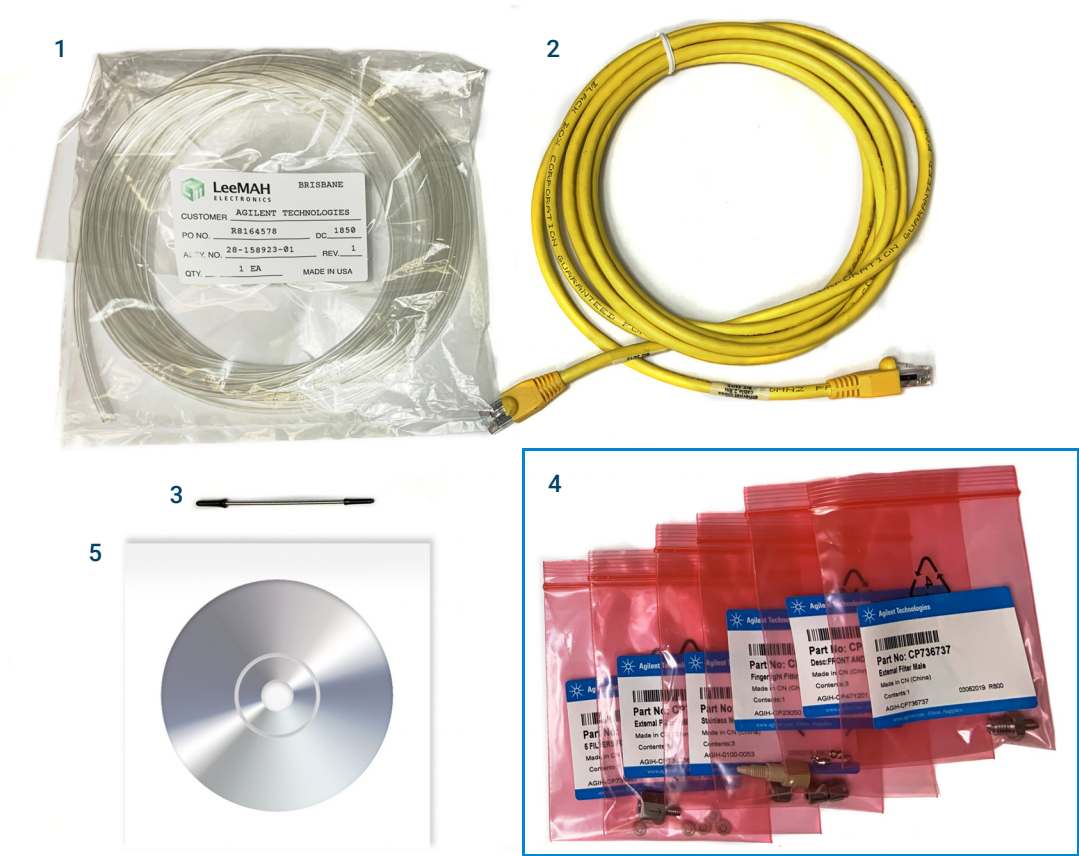

Figure 13. Contents of the Agilent 990 Micro GC shipping kit.
Table 5 shows a typical packing list. The actual packing list and included parts depend on the options ordered. **Figure 13** on page 35 shows the contents of the typical package shipped with the Agilent 990 Micro GC.
* See **Figure 13**.